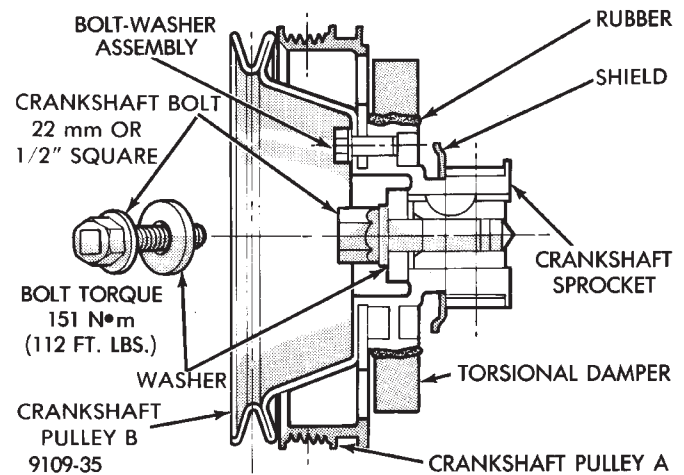
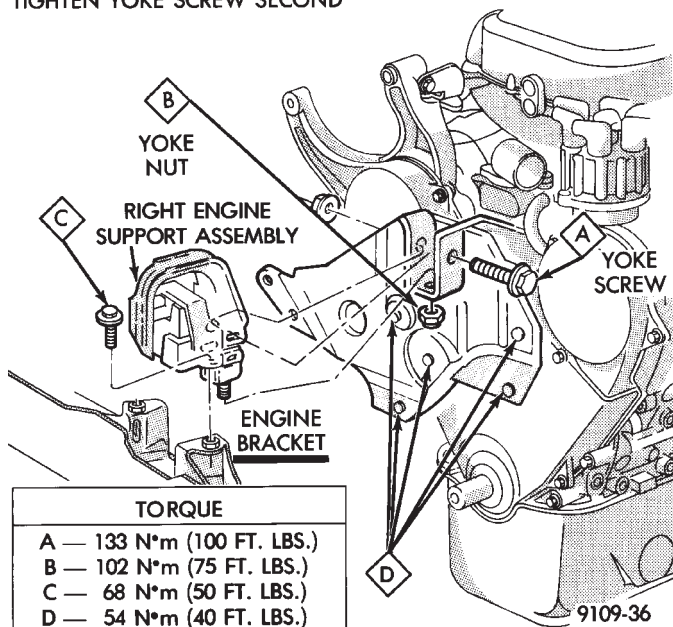

Fig. 9 Crankshaft Drive Pulleys
Fig. 10 Right Engine Mount and Engine Mount Bracket
- (7) Remove crankshaft drive pulleys and torsional damper (Fig. 9).
- (8) Lower vehicle and place a jack under engine.
(9) Mark support assembly to engine bracket if assembly is to be used again. Separate engine mount insulator from engine mount bracket (Fig. 10). Raise engine slightly.
(10) Remove engine mount bracket (Fig. 10).